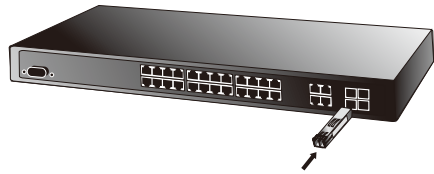

Figure 1: Insert the SFP Mini-GBIC modules
1. Power on the Switch and place the Switch on a flat surface. Install the new SFP Mini-GBIC modules by inserting it into the slots and sliding it in until it stops (See **Figure 1**). Press it firmly until you feel the module snap into place. Never force, twist or bend the SFP Mini-GBIC modules. The SFP Mini-GBIC module slides in smoothly and the Switch will automatically detect the new module.